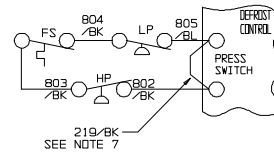

FIGURE 2 - HEAT PUMP UNITS PRESSURE SAFETY KIT WIRING DIAGRAM
- Disconnect and discard wire 219/BK from the unit. See Figure 2.
- Wire 802/BLK (Supplied with kit): Connect the un-insulated end to the defrost control "pressure switch" terminal. Route the insulated end through the hole in the condenser partition and connect to the high pressure switch. See Figure 2.
- Wire 803/BLK (Connected to the freeze stat): Connect wire 803/BLK to the high pressure switch. See Figure 2.
- Wire 804/BLK (Connected to the freeze stat): Connect wire 804/BLK to the low pressure switch. See Figure 2.